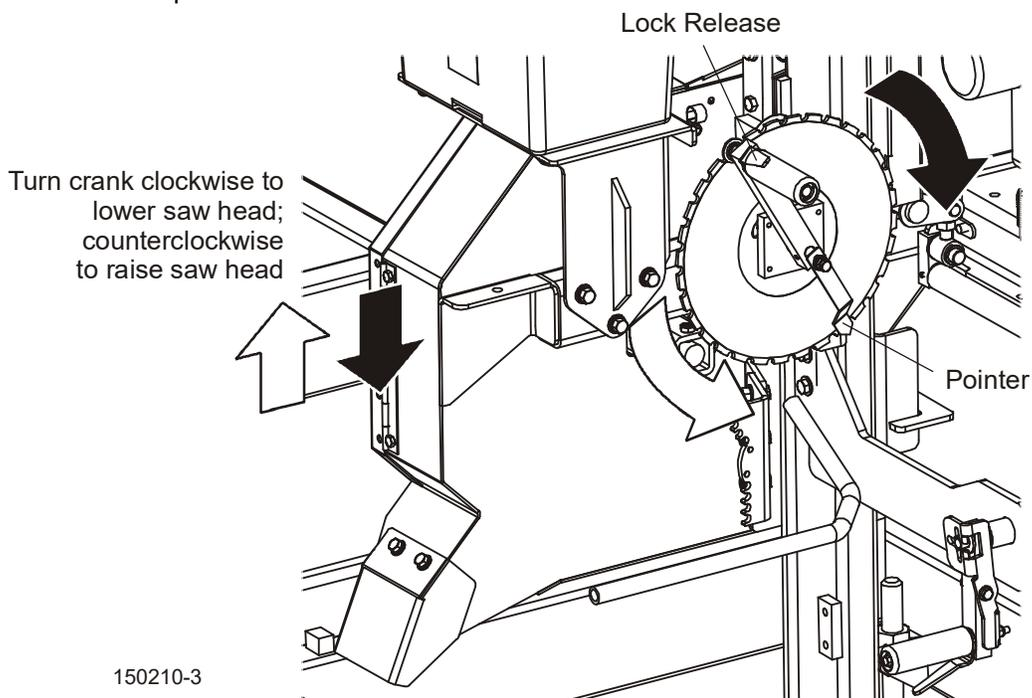

FIG. 5-13
3. Rotate and release the lock pin closest to the end of the mill. See FIG. 5-13.